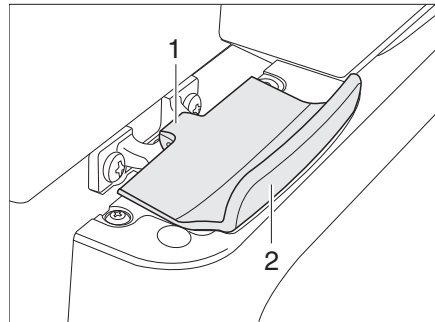

Fig. 142 Lock of refrigerator door, closed (Thetford)
- Open the refrigerator door at the handle (Fig. 142,2). The lock (Fig. 142,1) is released automatically.